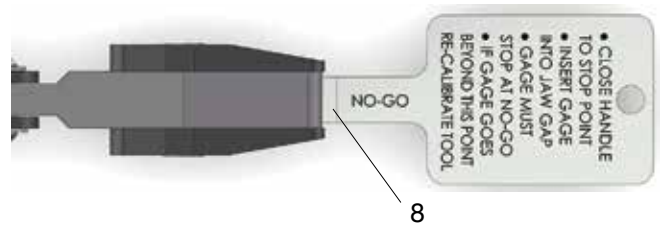
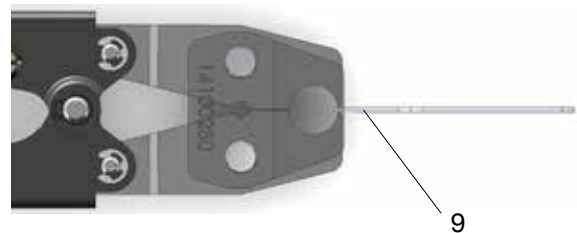

Fig. 8: Insert gauge
Fig. 9: Insert gauge (side view)
2. Insert GO/NO-GO Gauge into jaw gap (Fig. 8 and Fig. 9).